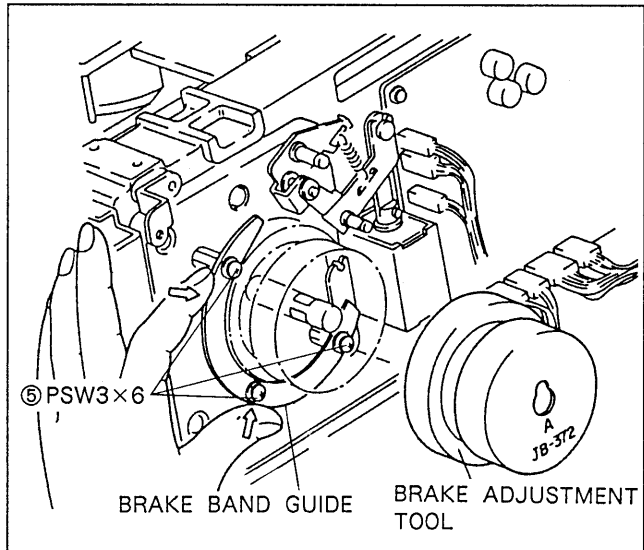

Fig. 6-6-3. Brake Band Guide Position Adjustment
15. Turn the side of the prepared brake adjustment tool, that is marked "A" "JB-372" to the front and mount the tool onto the reel motor shaft as shown in Fig. 6-6-3.
16. Secure the brake band guide properly using the three screws ⑤ while pressing the brake band guide lightly against the brake adjustment tool.